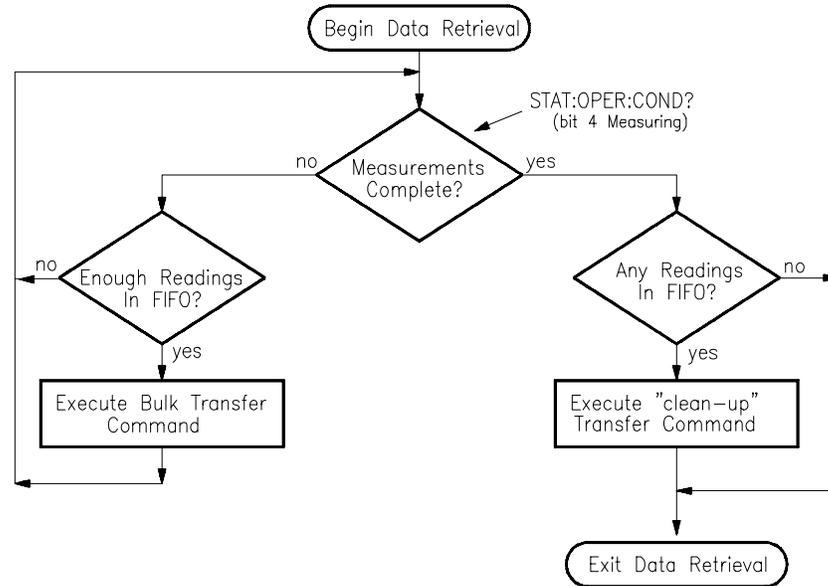

Figure 4-1. General Form of FIFO Data Retrieval
Figure 4-1 shows program flow in the FIFO data retrieval section for a single HP E1313/E1413. The conditions before entering the data retrieval section are:
- Instrument initiated (INITiate sets the Measuring bit checked in the first decision block in Figure 4-1).